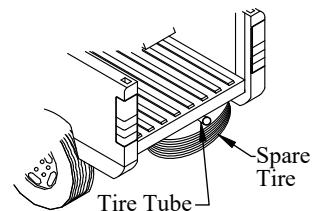

Figure 8: Spare tire and spare tire tube location.
1. Lower the spare tire (Figure 8).
4. Trim the spare tire tube so that it is even with the rear of the truck box (Figure 8).